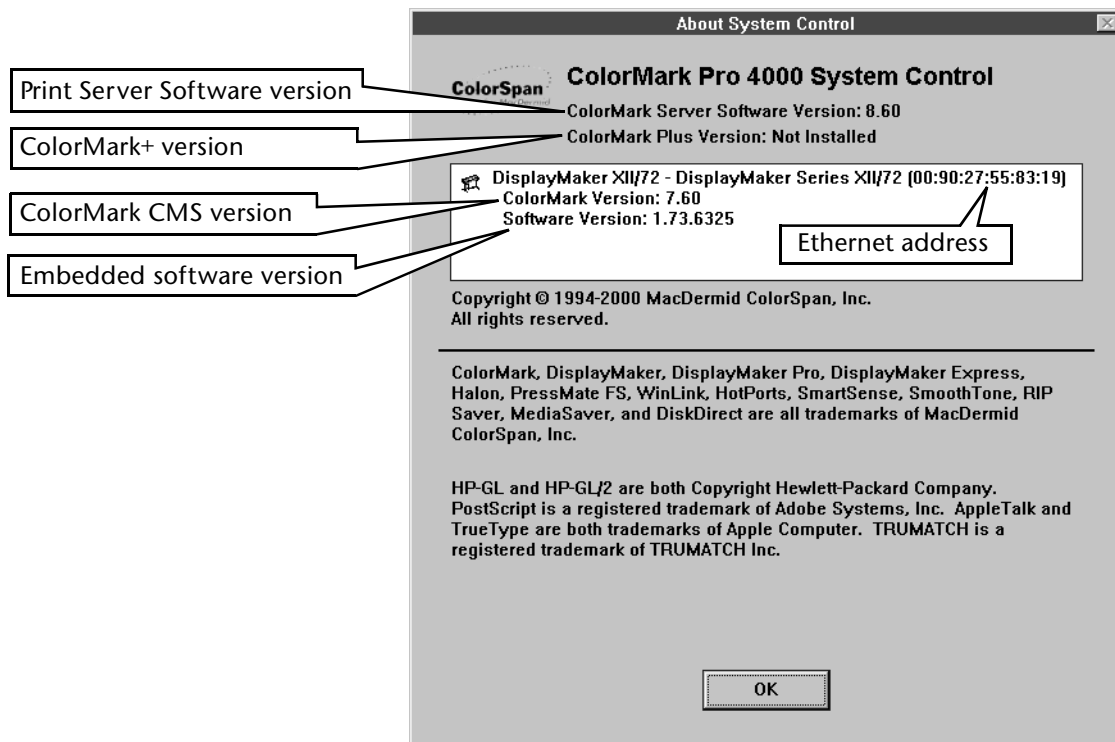

Fig. 3-5. About box
- ◆ **About print server** — Shows you the version number of and copyright information for the System Control, ColorMark CMS, ColorMark+, and embedded printer software (see Fig. 3-5. on page 3-17).